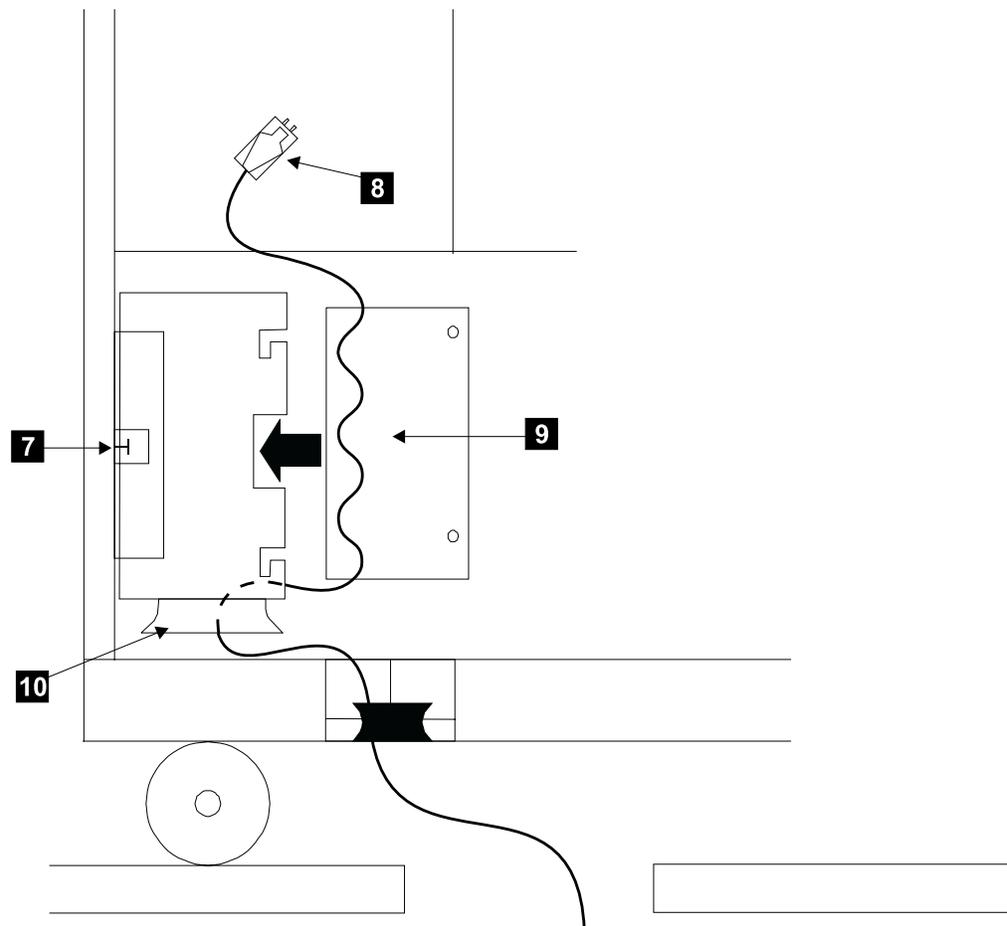

Figure 312. ESCON Cable Strain Relief Hardware (S008276p)
- 4. Refer to Figure 312 on page 316 for the following steps. Remove the screw **7** that holds the ESCON strain relief gate closed.